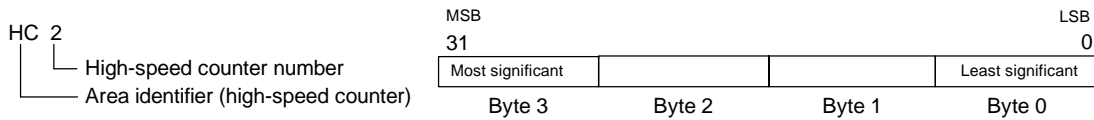

Figure 6-28 Accessing the High-Speed Counter Current Values
To access the count value for the high-speed counter, specify the address of the high-speed counter, using the memory type (HC) and the counter number (such as HC0). The current value of the high-speed counter is a read-only value that can be addressed only as a double word (32 bits), as shown in Figure 6-28.